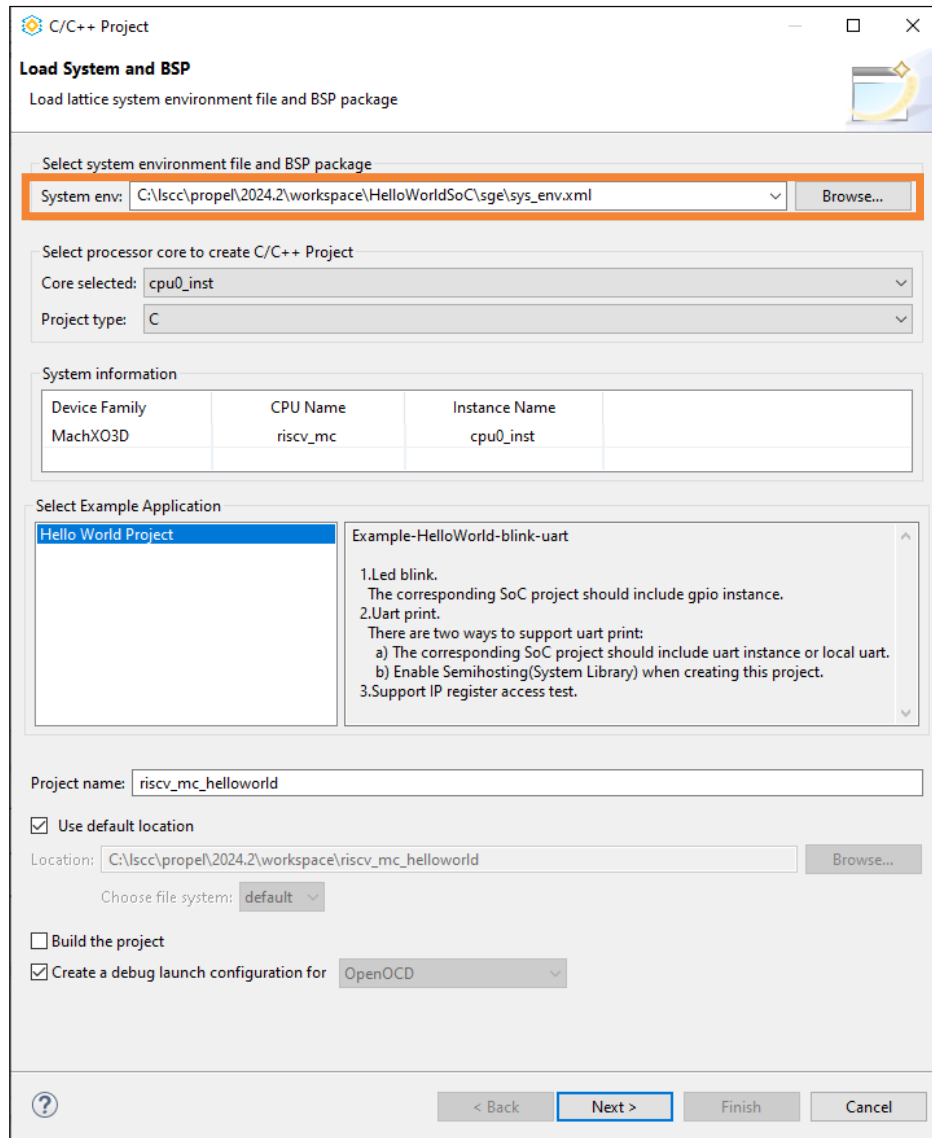

Figure 4.10. Load System and BSP Page 3
The C/C++ Project wizard opens with the **Load System and BSP** page (Figure 4.10).
4. Select the system environment file just generated (Figure 4.10).
5. Change project name to HelloWorld (Figure 4.10). Click **Next**. Then click **Finish**.